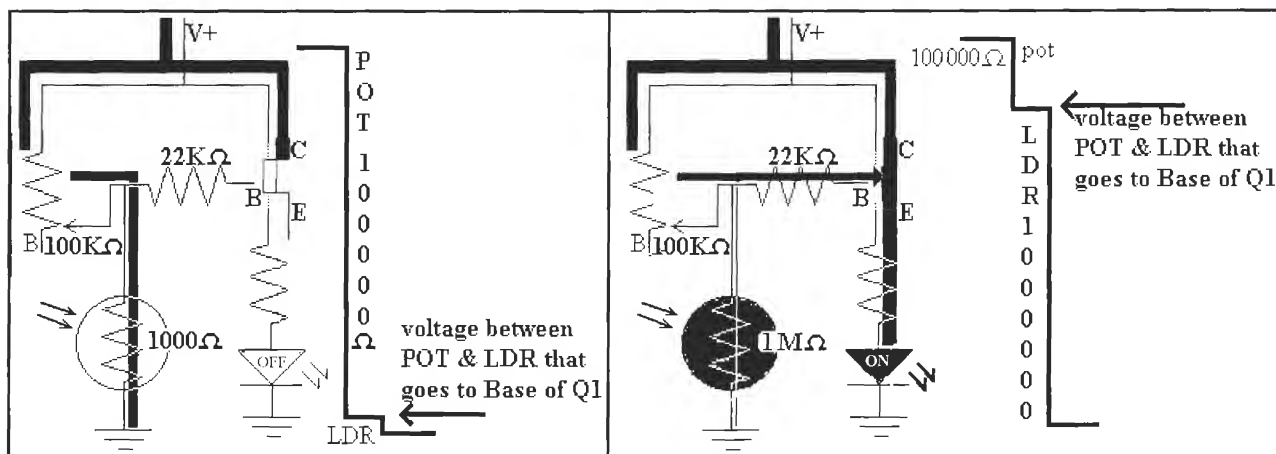

Figure L11-7
8. Set the pot so the resistance between legs "A" and "C" center now has 100 kilo-ohm. Figure L11-7 shows how the voltage is responding to the changing resistance of the LDR, changing the voltage available to the base of the transistor. The pot here is adjusted to twice as much resistance as before, so it will use twice as much of the voltage available. The LDR must be set into nearly complete darkness or you will get muddy results.